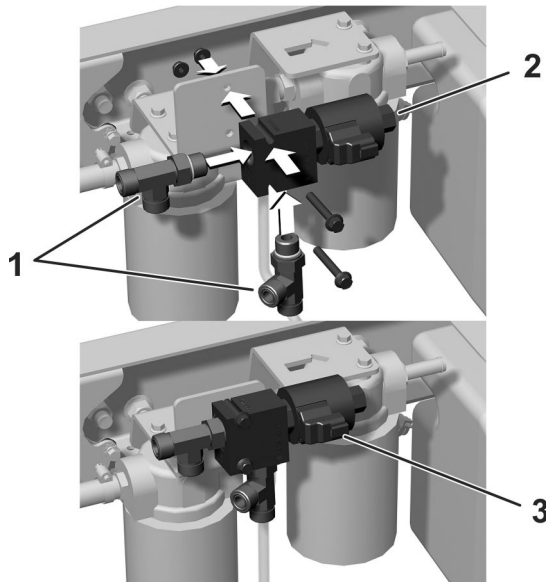

Figure 12
1. Loosely install the 2 T fittings onto the valve (Figure 12).
2. Mount the valve to the frame bracket with 2 flange-head screws (1/4 x 1-7/8 inches) as shown in Figure 12.
3. Install the electrical connector to the connection on the valve (Figure 12).